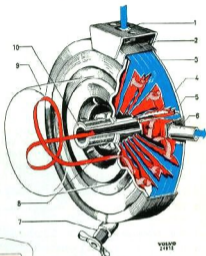

Fig. 6. Oil cooler (B 18 B early prod.)
The oil cooler (Fig. 6) is fitted between the oil filter and the cylinder block and consists of an inner section for the oil which is surrounded by a cooling jacket. The engine coolant is led through the cooling jacket. On its way to the oil filter, the oil passes through the cooler and some of the heat in the oil is conducted away by the coolant. The coolant cannot pass the shortest way from the inlet (1) to the outlet (6), but is forced to circulate round the cooler through the channels formed by the baffles (5). The oil is forced between the pairs of discs (4) in turn due to the transverse baffles (4) on the discs (4) and then finally passes out to the oil filter.